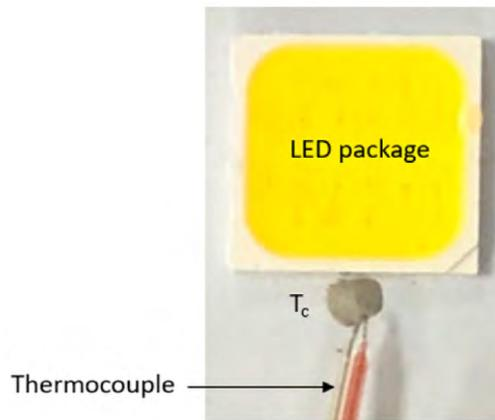

Figure 1. An example of a representative setup of thermocouple (TC) wire attachment via thermal adhesive at the T_c location.
The location of T_c , also known as t_c , for each LED module is shown in Figure 1 (labeled as T_c in the drawing).
Shown in Figure 1 is a thermocouple (TC) wire size of AWG 40. Smaller diameter TC wire is preferred as this has less thermal mass (more accurate temperature reading) and can be secured such that no portion of the bare TC wire is exposed to direct optical radiation from the LEDs. Dispense a small amount of thermal conductive epoxy such as a two-part Artic Silver® Thermal Adhesive and let it cure.